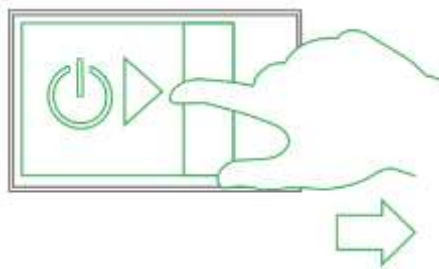

Figure 3-22
Step 1 Move the system start button to the right and the system starts up, as shown in Figure 3-22.